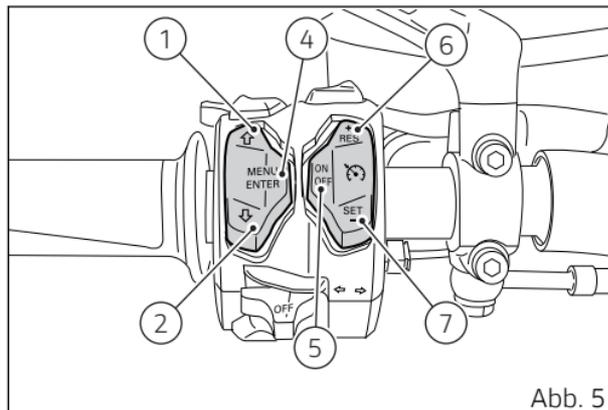

Abb. 5
6) CRUISE CONTROL-TASTE – RES (Resume) / + (more) (Abb. 5)
7) CRUISE CONTROL-TASTE – SET (Setup) / - (less) (Abb. 5)